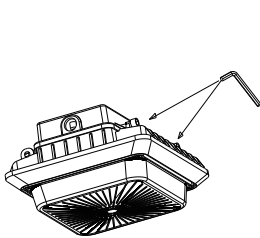

Figure 2-1
1. To remove the metal box cover, loosen the two screws using an Allen Key, then slide horizontally the cover to remove it from hinges. Fig 2-1